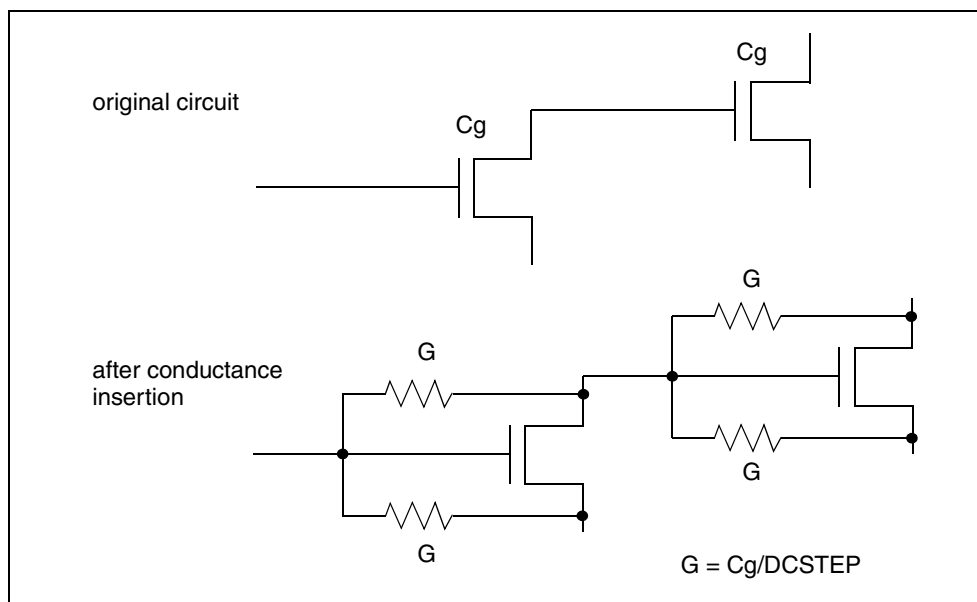

Figure 46 Conductance Insertion
In Figure 46 on page 488, HSPICE inserts conductance (G), in parallel with capacitance (C_g). This provides current paths around capacitances, in DC analysis.